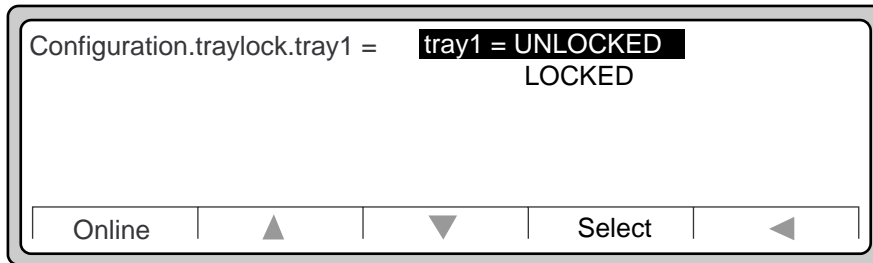

Figure 3-29 Configuration.traylock.tray1
7. For example, if you want to lock tray1, press **▶** to select tray1. (See the screen in Figure 3-29.)